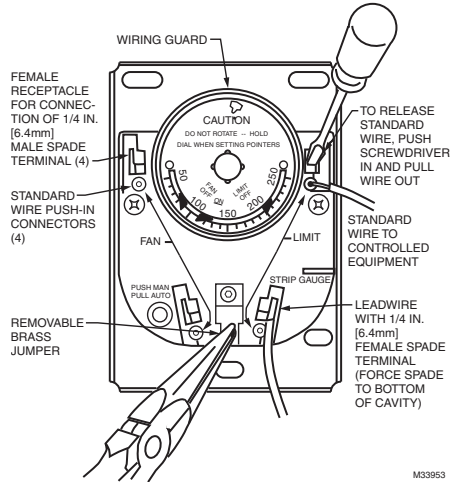

Fig. 5. Location of Wiring Connections.
Disconnect power supply before beginning installation to prevent electrical shock or equipment damage. All wiring must comply with local electrical codes and ordinances or in the absence of local codes with the National Electrical Code ANSI CI-1981-NFPA 70. Follow burner or furnace manufacturer's instructions if available; otherwise, see Fig. 5 and proceed as follows.
*The brass jumper is the breakaway type. It must be removed when the limit is used in the low voltage circuit. To remove jumper, break with a needlenose pliers and remove completely. Once removed, it is not replaceable. See Fig. 5 for location.*
When connecting cable or conduit to this controller, use care to avoid strain on the control case. Connections can be made to standard wire push-in terminals or female receptacles for 1/4 in. (6.4 mm) male flag connectors on both the fan and limit switches (Fig. 5).
3. Solid wire may be inserted directly into the terminal holes. If stranded wire is used, insert a small screwdriver into the slot next to the terminal. Push screwdriver in and hold while inserting wire into terminal (Fig. 5). Remove screwdriver. If stranded wire is solder-dipped, it can be pushed directly into terminal holes.
3. Push male flag connector directly into the female receptacle. Make sure that the flag is forced to the bottom of cavity and wire is in the channel (Fig. 5).